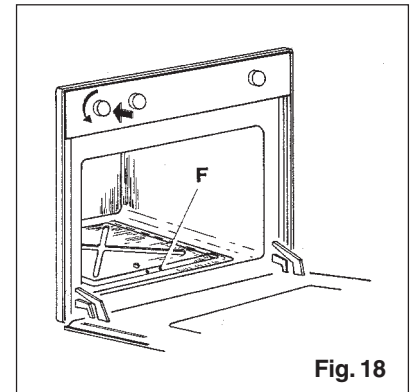

Fig. 18
- Press the ignition button (Fig.18)